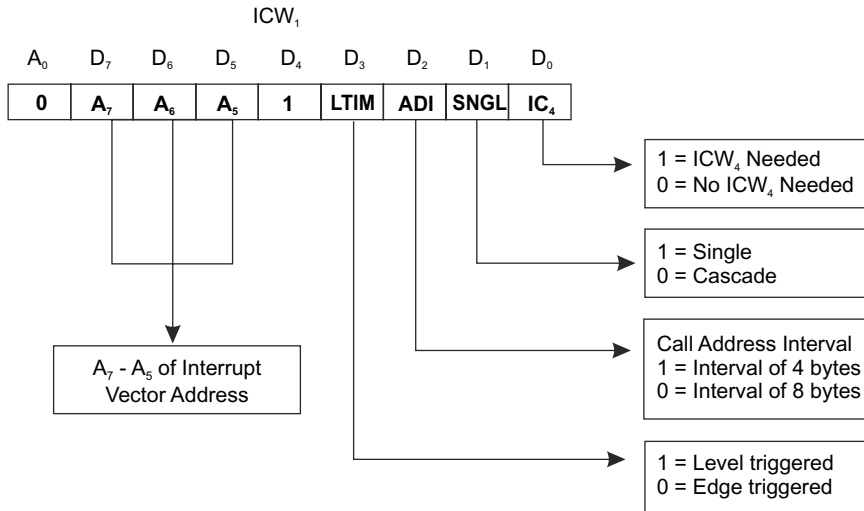

Fig. 8.48 Initialization Command Word 1
The format of ICW₁ is shown in Fig. 8.48.
- ✓ **D₅-D₇** These are A₅-A₇ bits as shown in Fig. 8.48. For an interval spacing of 4, A₀-A₄ bits are automatically inserted by 8259A while A₀-A₅ are inserted automatically for an interval of 8. A₅-A₇ bits are programmable as set by the bits D₅-D₇ of ICW₁.